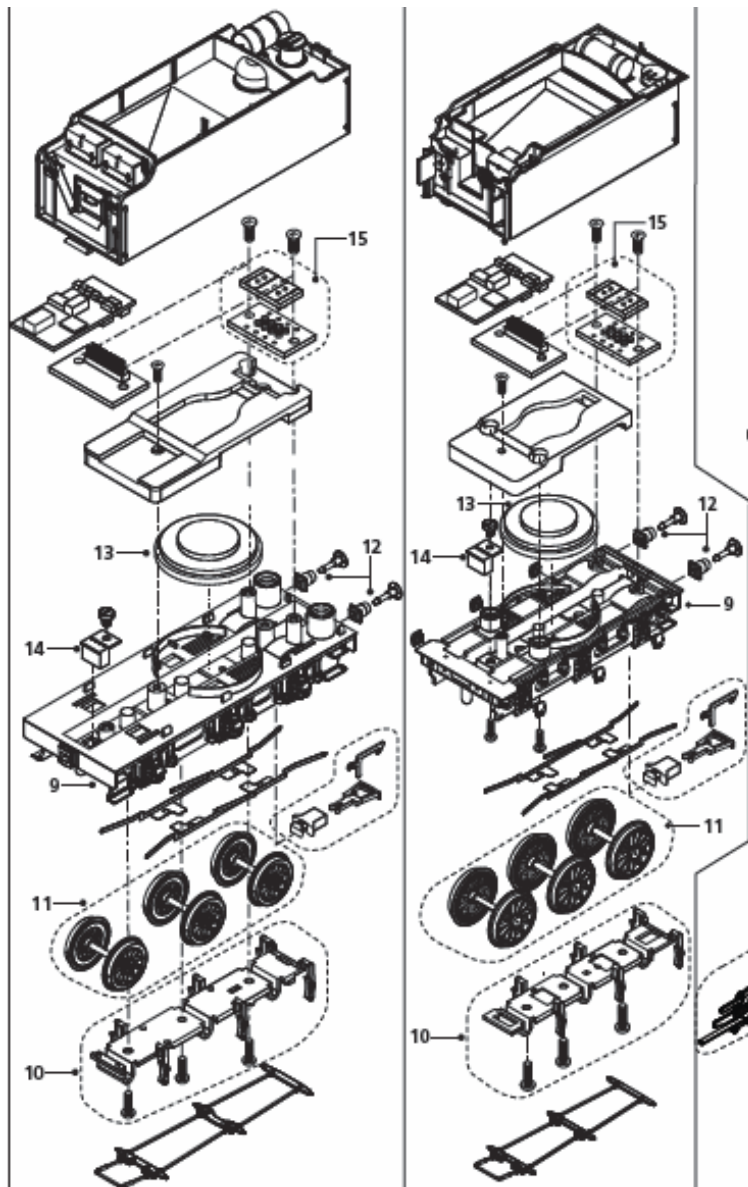

Figure 25 - Hornby Class B17 Long (left) and Short (right) Tenders
Figure 25 shows the B17 21-pin/8-pin (item 15) sound fitted variants (long and short tenders). The speakers (item 13) are mounted without enclosures and could be sealed by the modeller for best performance. Note also that the tender weight cut-out is suitable to mount either a round or oblong speaker. This is now common on all the post TTS design models.